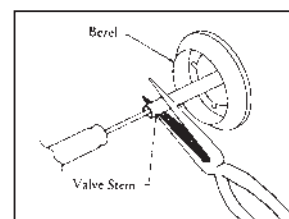

FIG. 19 Low Setting Adjustment
4. While holding the valve shaft with pliers, insert a thin, flat tipped screwdriver into the shaft and while viewing the burner adjust to a minimum stable flame (Fig. 19).